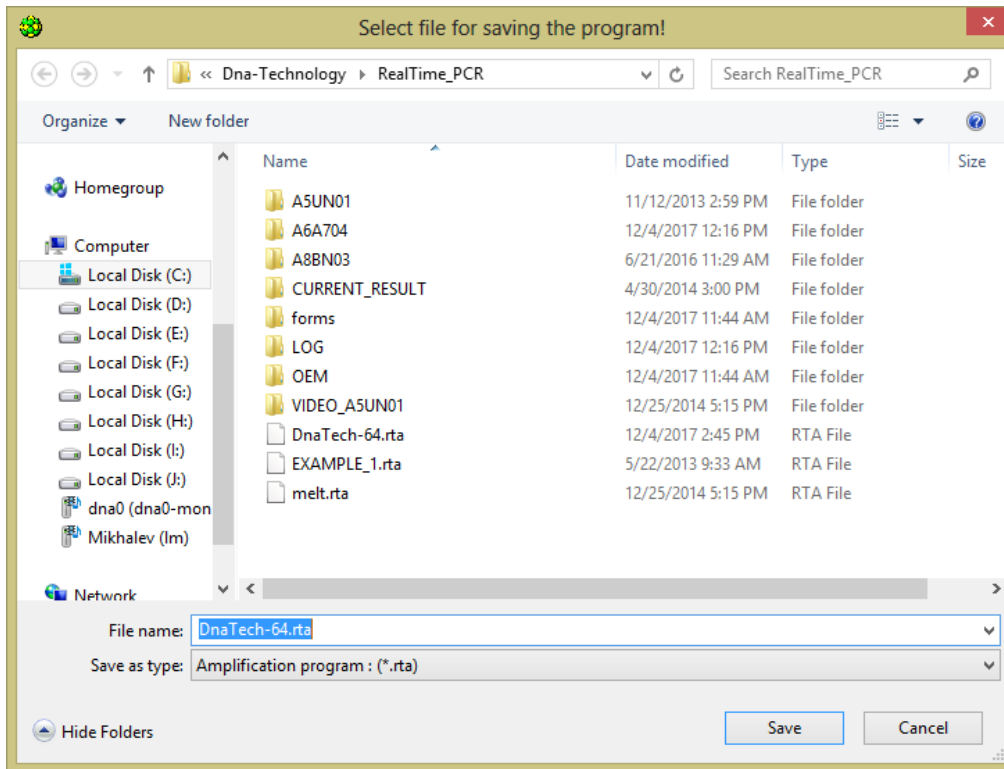

Fig.44 Saving the amplification program
2. In the dialog box that appears (Fig.44), enter the name of the created amplification program in the field **File name**, using the Latin letters only.